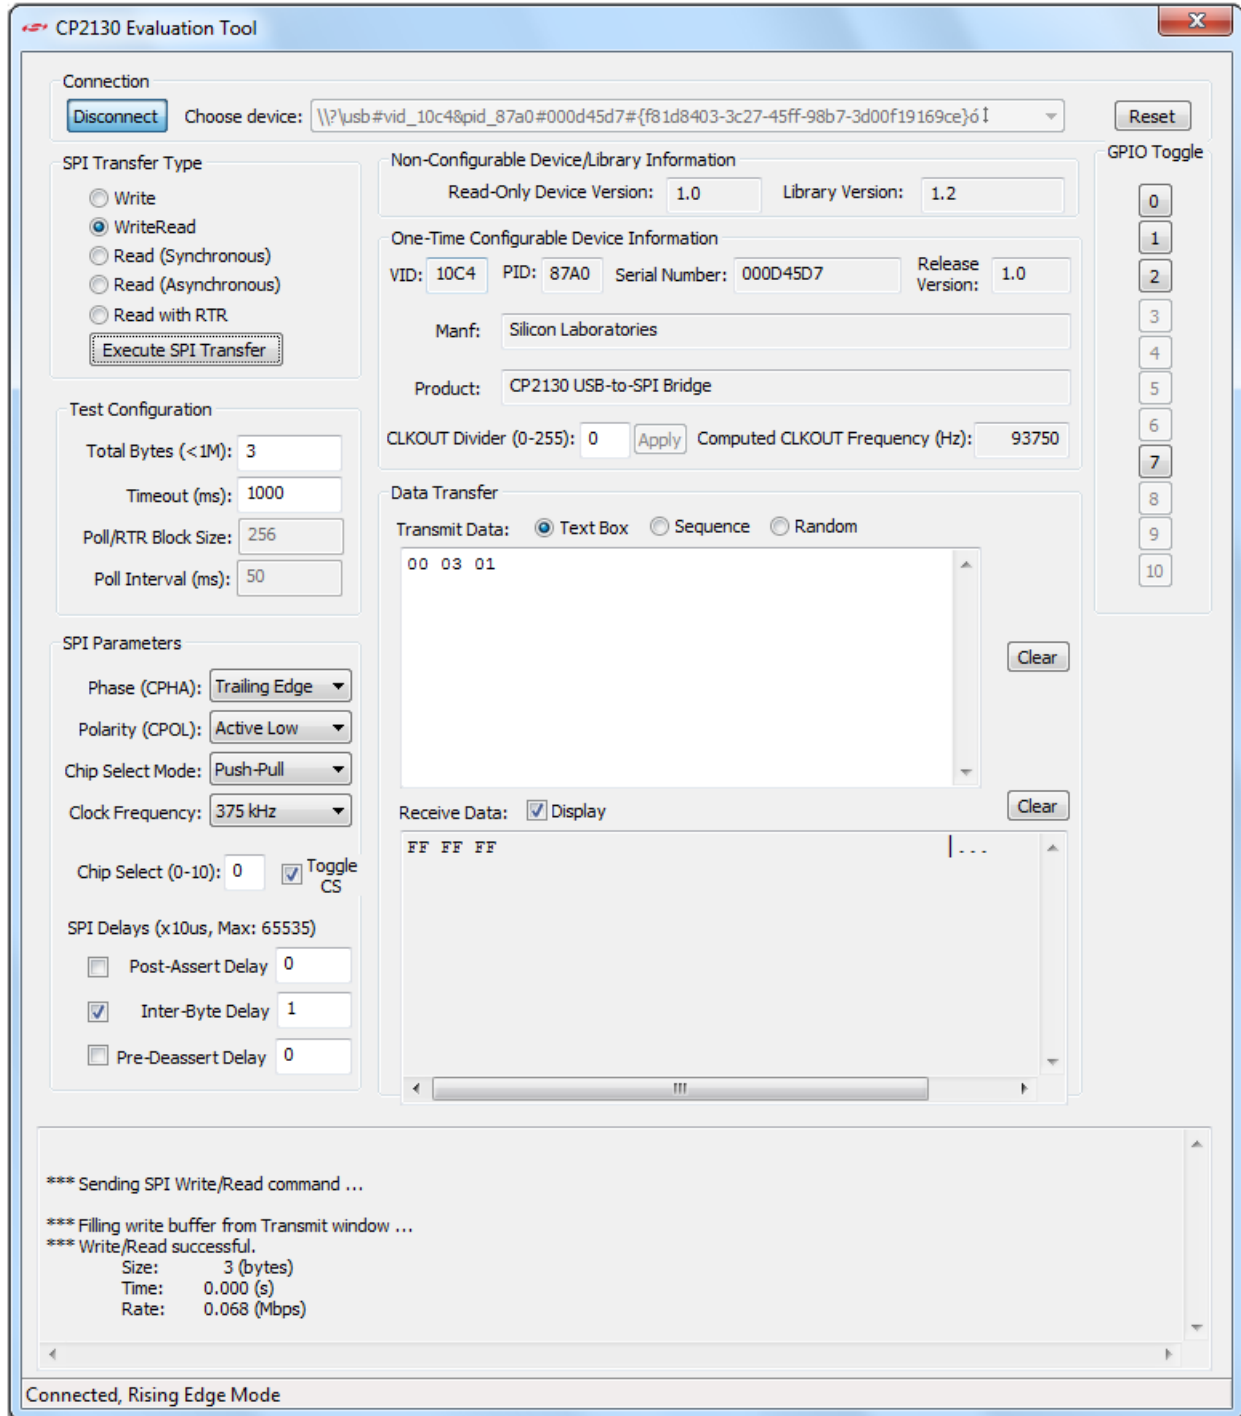

Figure 1.5. CP2130 Configuration Window
- e. Your settings should look like Figure 1.5 CP2130 Configuration Window on page 5 when complete: